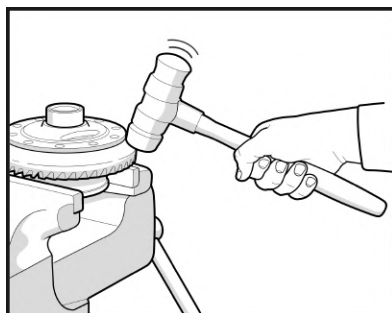

Fig. 13
2.2 Drive the ring gear off the existing differential case using a plastic-, rubber-, or copper-faced hammer. To prevent binding, work evenly around the circumference. (Fig. 13)